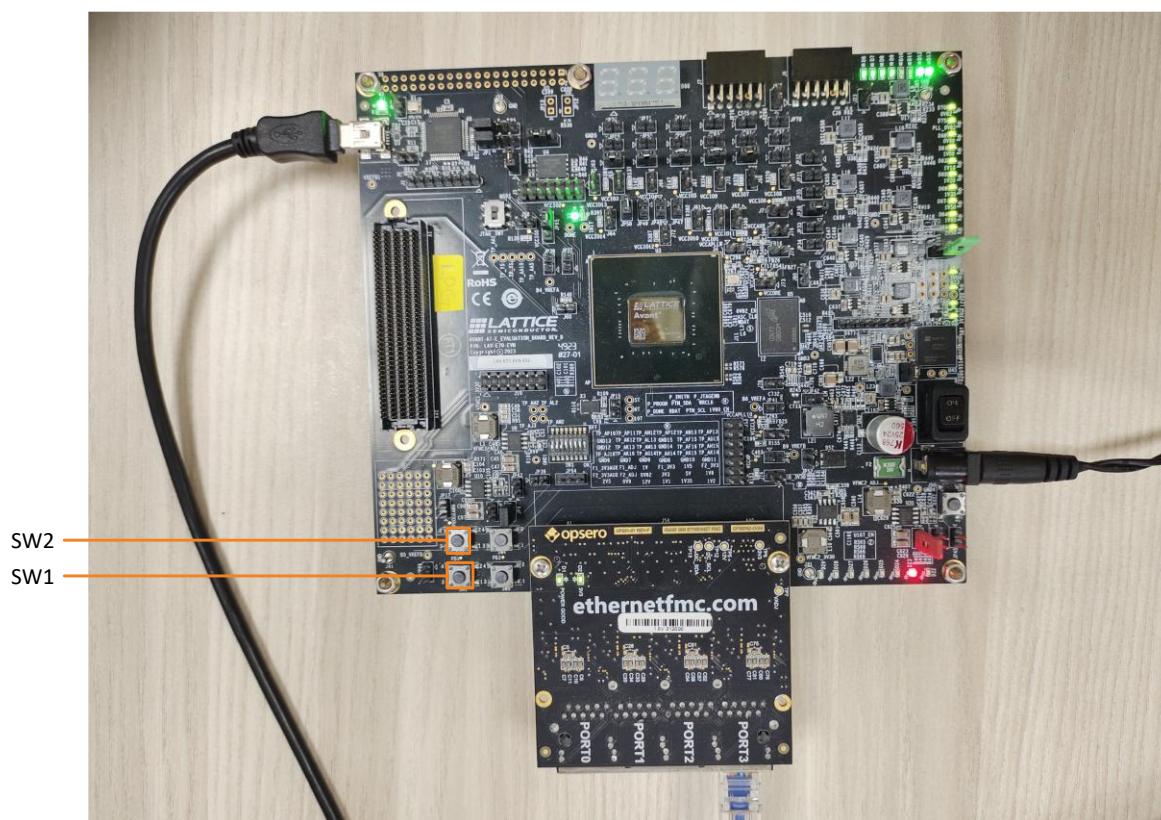

Figure 6.23. SW1 Reset Button and SW2 PROGRAMN Button
21. Press **SW1 Reset** button on the board as highlighted in Figure 6.23.